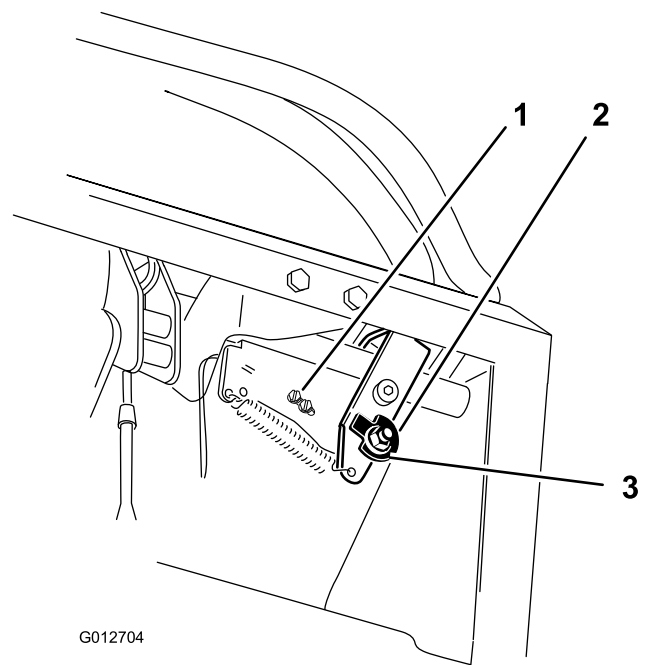
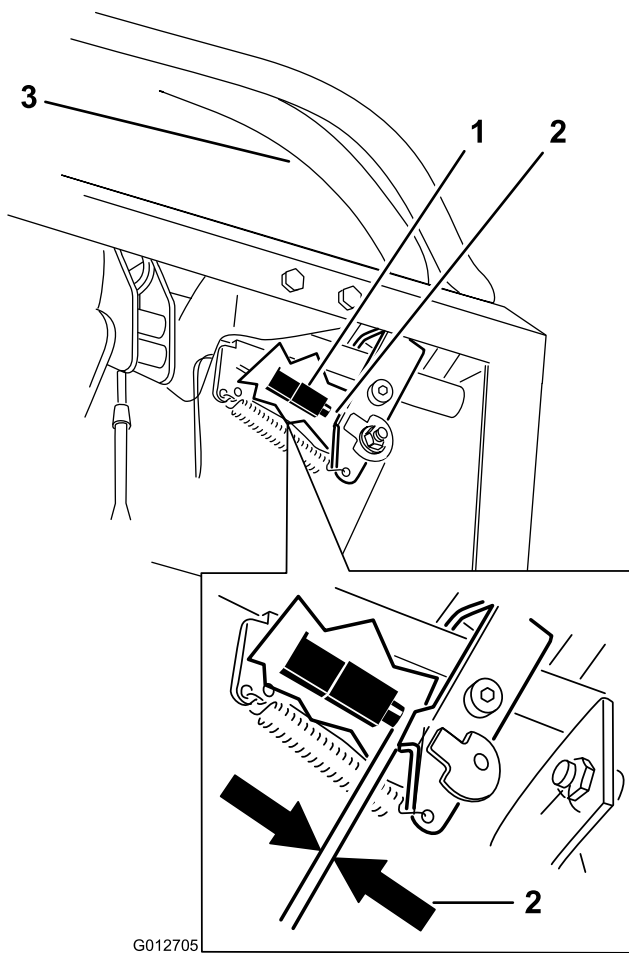

Figure 69
Figure 70
10. Check the gap between the control lever and switch as shown in Figure 70. The gap needs to be an 1/8 inch (3 mm) with the right motion control lever in the neutral, unlocked position.
11. If needed, loosen the screws holding the switch and adjust the switch (Figure 69 and Figure 70).
7. Loosen the nut holding the cam (Figure 69).